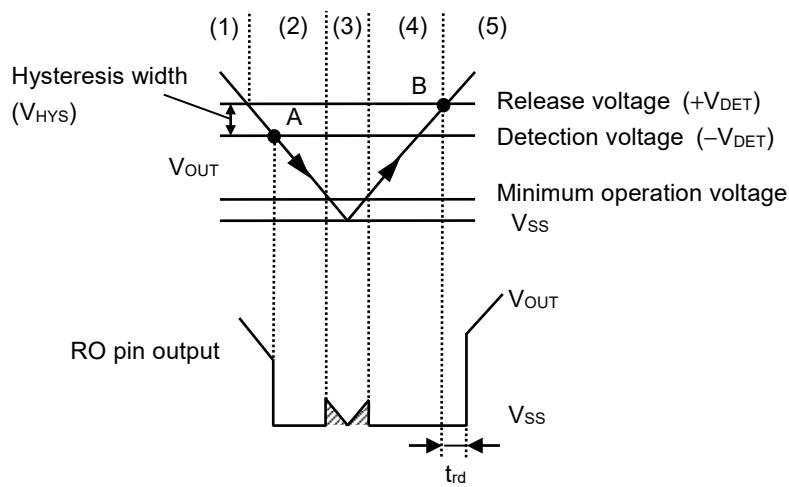

Figure 18 Timing Chart of Detector Block
- (1) When the output voltage (V_{OUT}) of the regulator is release voltage ($+V_{DET}$) of the detector or higher, the Nch transistor (N1 and N2) are turned off and "H" is output to the RO pin. Since the Pch transistor (P1) is turned on, the input voltage to the comparator (C1) is $\frac{R_B \cdot V_{OUT}}{R_A + R_B}$.
- (2) Even if V_{OUT} decreases to $+V_{DET}$ or lower, "H" is output to the RO pin when V_{OUT} is the detection voltage ($-V_{DET}$) or higher. When V_{OUT} decreases to $-V_{DET}$ (point A in **Figure 18**) or lower, N1 which is controlled by C1 is turned on, and C_{DLY} is discharged. At the same time, N2, which is controlled by the delay circuit, is turned on, and "L" is output to the RO pin. At this time, P1 is turned off, and the input voltage to C1 is $\frac{R_B \cdot V_{OUT}}{R_A + R_B + R_C}$.
- (3) If V_{OUT} further decreases to the IC's minimum operation voltage or lower, the RO pin output becomes uncertain. If the RO pin is pulled up, "H" is output.
- (4) When V_{OUT} increases to the IC's minimum operation voltage or higher, "L" is output to the RO pin. Moreover, even if V_{OUT} exceeds $-V_{DET}$, the output is "L" when V_{OUT} is lower than $+V_{DET}$.
- (5) When V_{OUT} increases to $+V_{DET}$ (point B in **Figure 18**) or higher, N1 is turned off and C_{DLY} is charged. When V_{DLY} increases to the threshold voltage (1.25 V typ.), N2, which is controlled by a delay circuit, is turned off and "H" is output to the RO pin.